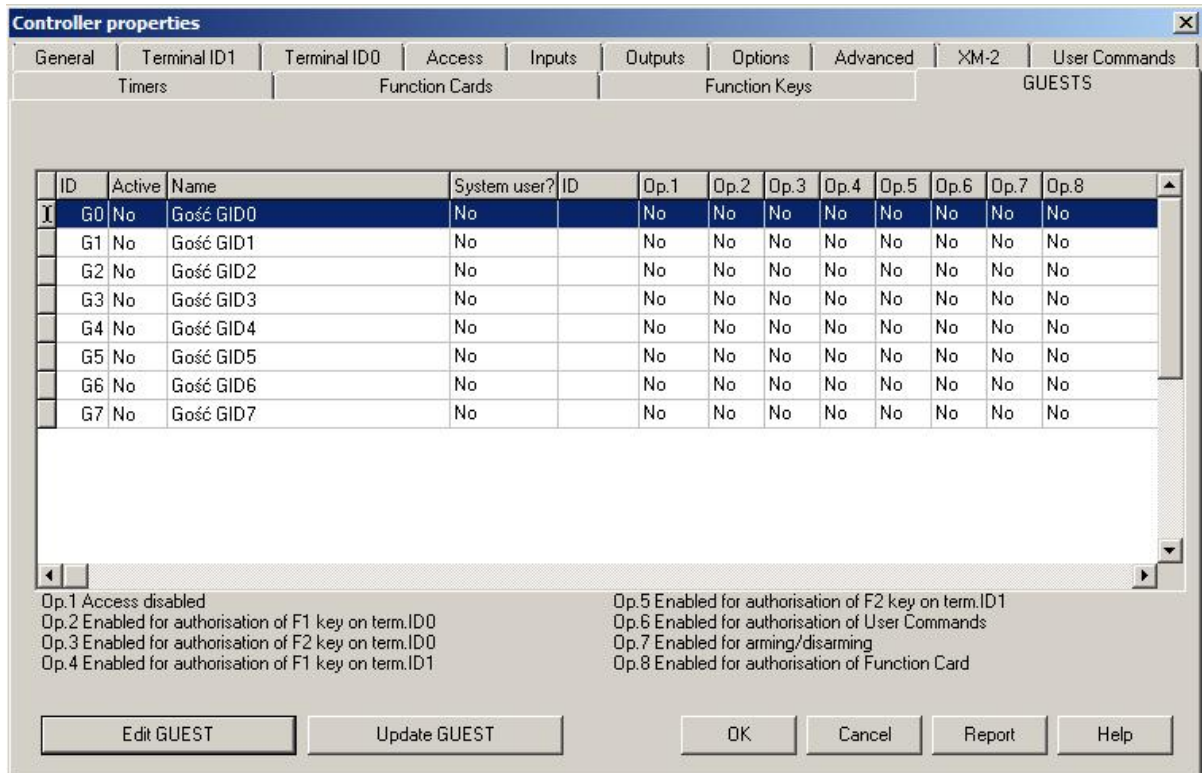

Fig. 6 Guests tab within properties of controller
3. Select one of free entries shown in fig. 6 and then click the button **Edit GUEST**. The maximal number of guests in the rooms is 8, each with own card.
- Select particular guest from the list shown in fig. 6 and then click the button **Edit GUEST**.